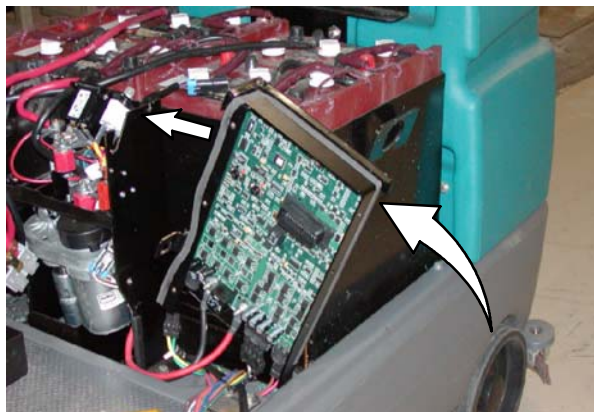

FIG. 2
11. Slide the circuit board (1)/control panel weldment (10) down into position. Refer to Fig. 2.